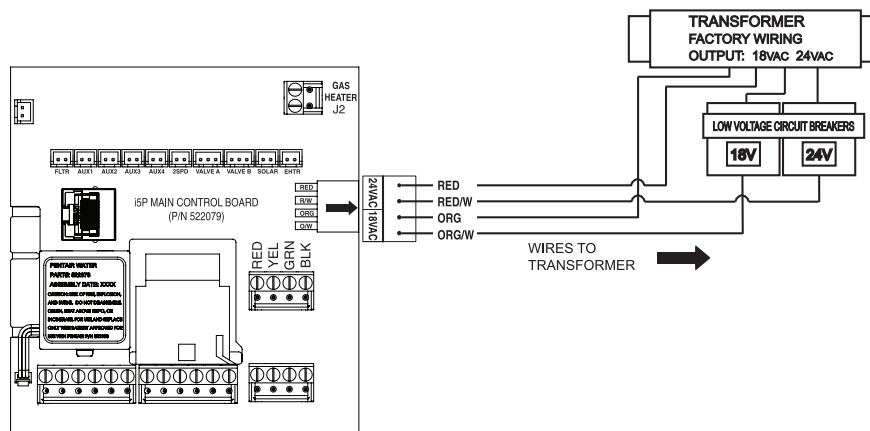

Figure 9. Wiring the System Transformer and Circuit Breakers (Load Center or Power center 2012 or later)
1. **Install the IntelliCenter Outdoor Control Panel (1) and Bezel:** Mount the Outdoor Control Panel and bezel onto the enclosure. Install the two screws to secure the bezel to the enclosure.
2. Connect the Transformer plug to the IntelliCenter Control System main motherboard (See Figure 9).